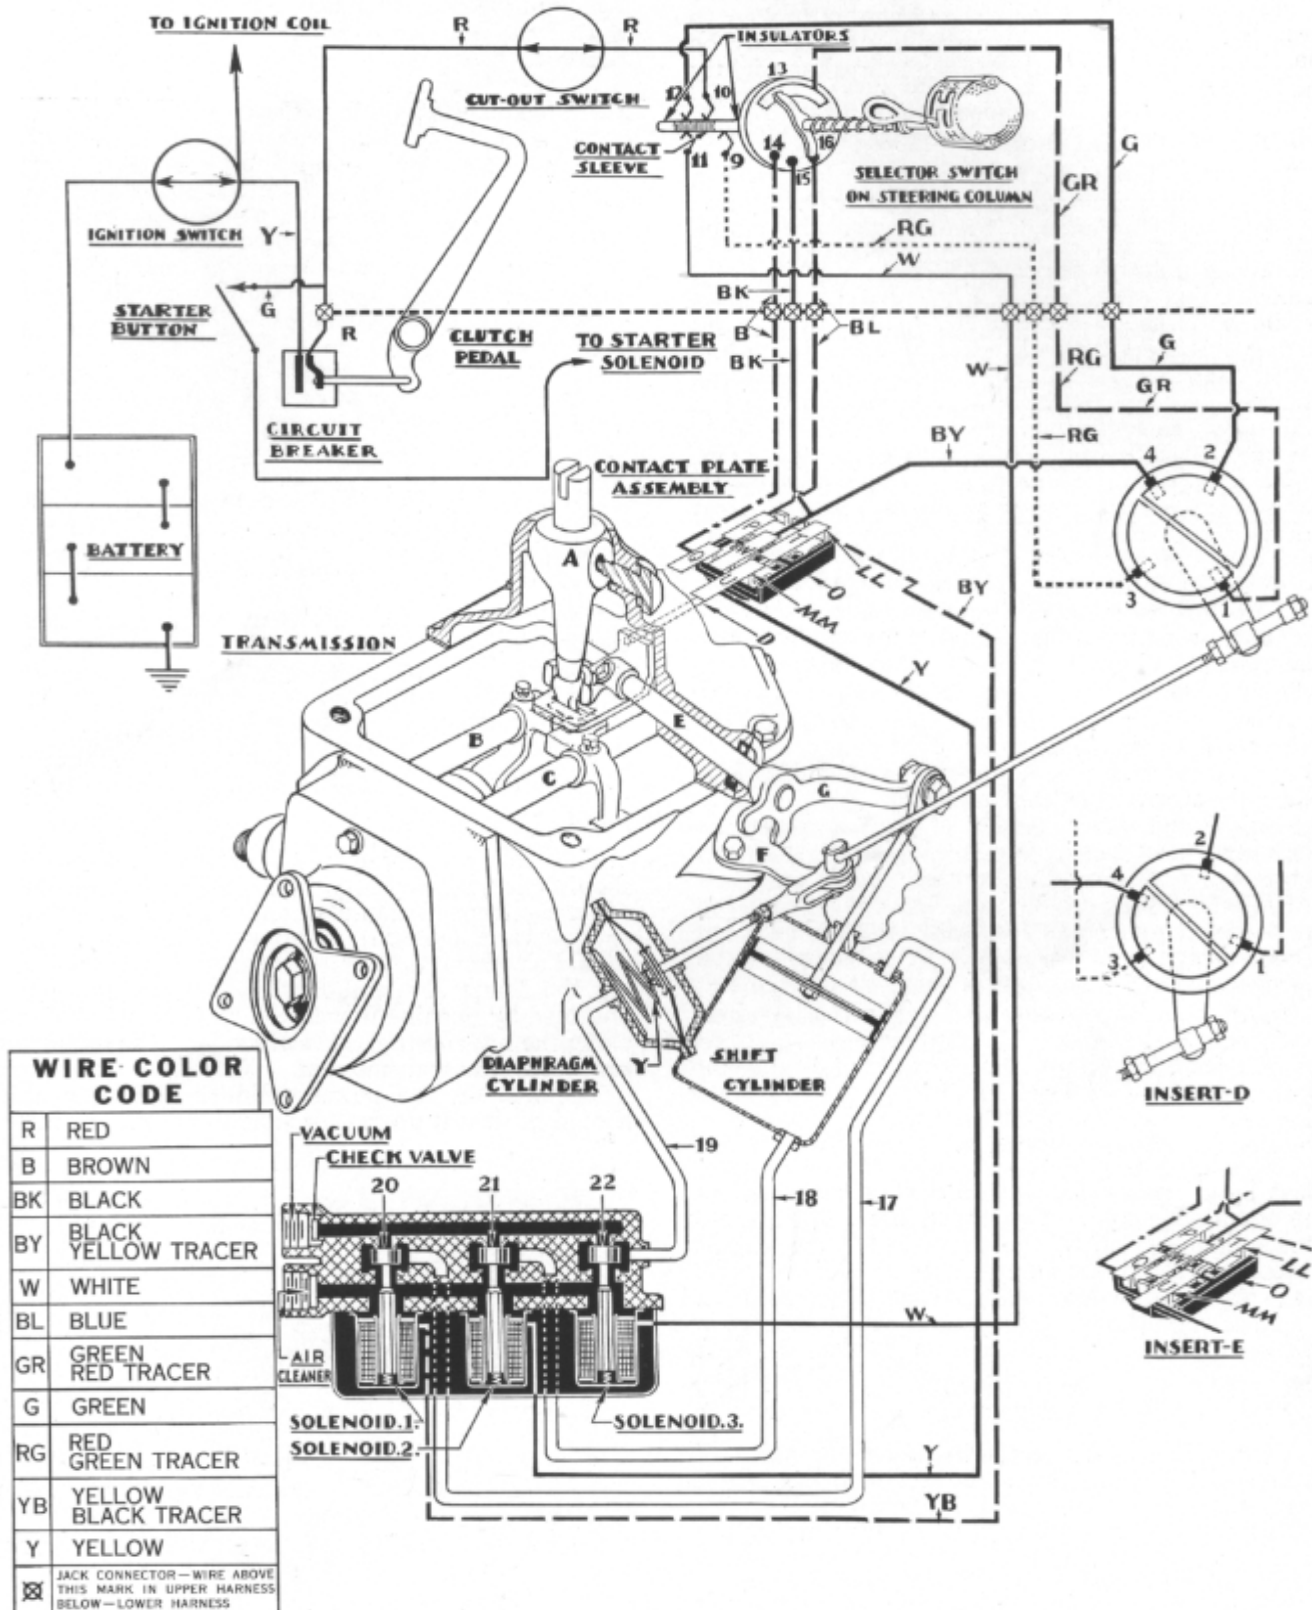

Figure 5
Figure 5 shows the transmission in high gear and the selector in low gear position. Here again it will be seen that the original circuit (full lines) is through the interlock switch to bar (W) to bring the transmission to neutral. When the lever (A) reaches the neutral position it will be drawn to the right to engage with the fork on shifting rail (C), since the circuit is complete from 11 to solenoid 3 and the interlock switch will be rotated to the position of insert (D).